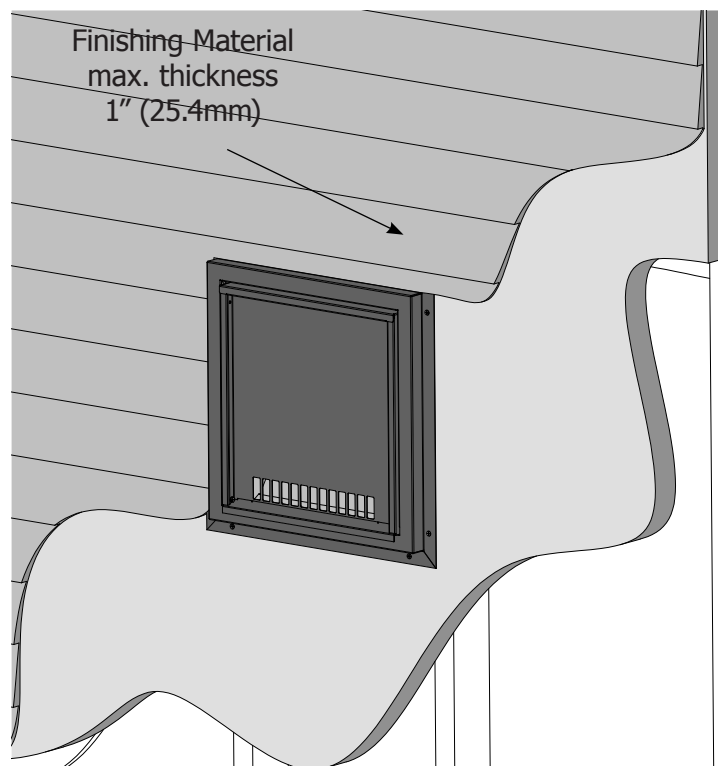

Figure 8: Exterior Cladding
11. The exterior wall finishing material can now be installed around the termination. The finishing material can butt up against the perimeter of the finishing face but the thickness cannot exceed 1" (25.4mm). Refer to Figure 8.